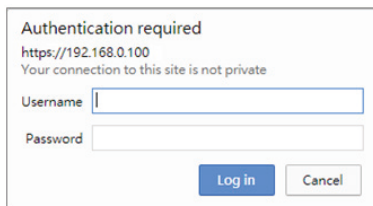

Figure 5-2: Login Screen
2. When the following dialog box appears, please enter the default user name **“admin”** and password **“admin”** (or the password you have changed before) as shown in Figure 5-2.